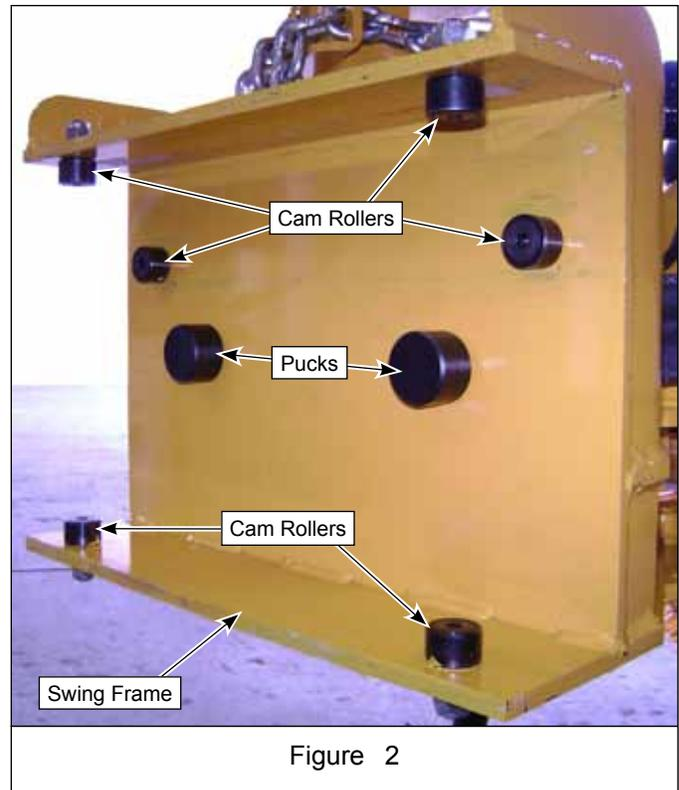
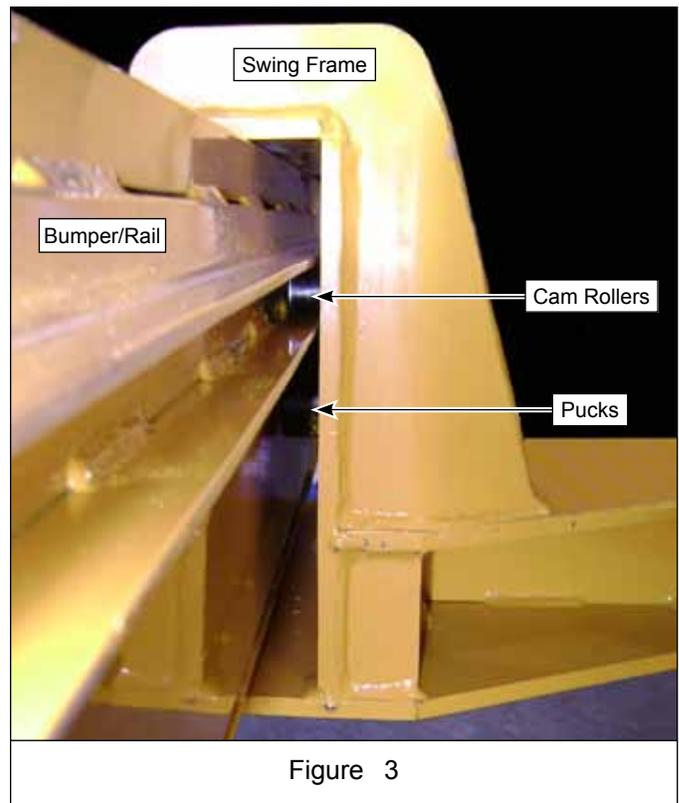

Figure 2
Figure 3
5. Slide swing frame onto bumper, aligning cam rollers (Figure 2) in rails. See Figure 3.
12. Move the swing frame to the desired position side-to-side on the bumper rail. Loosen the jam nuts on the two bolts on the inside of the swing frame (Figure 5). Tighten (clockwise) both bolts evenly to force the pucks (Figure 2) against the bumper/rail, locking the swing frame in position. Tighten the jam nuts against the swing frame to lock the bolts in place.